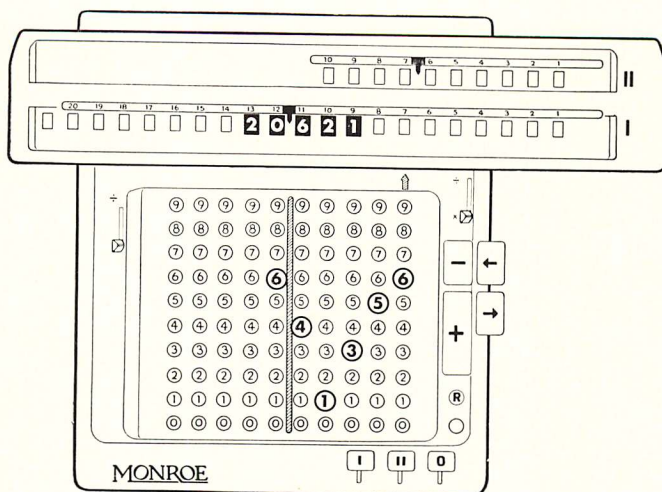

Figure 13
*Step 4*—Clear the keyboard and upper dials with the two right-hand clearance bars. Set 6.41356 on the keyboard. Carriage is already in “7” position ready for the division, as pictured in Figure 13.